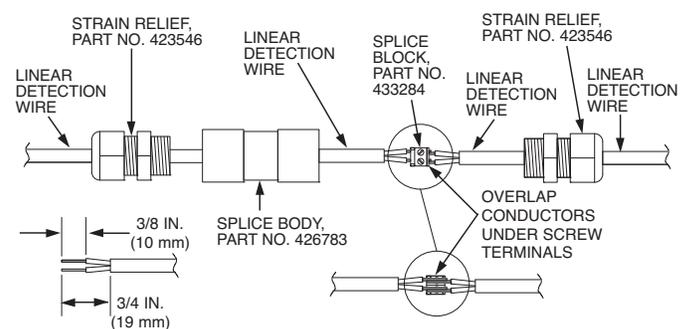

FIGURE 26
If possible, the detection wire should be run in a continuous piece. However, if splices are required, they must be made using the following technique. See Figure 26.
4. Loosen the compression nut of the strain relief assembly and slide the assembly over the end of the wire as shown in Figure 26. On the same wire end, slide the splice body onto the wire.